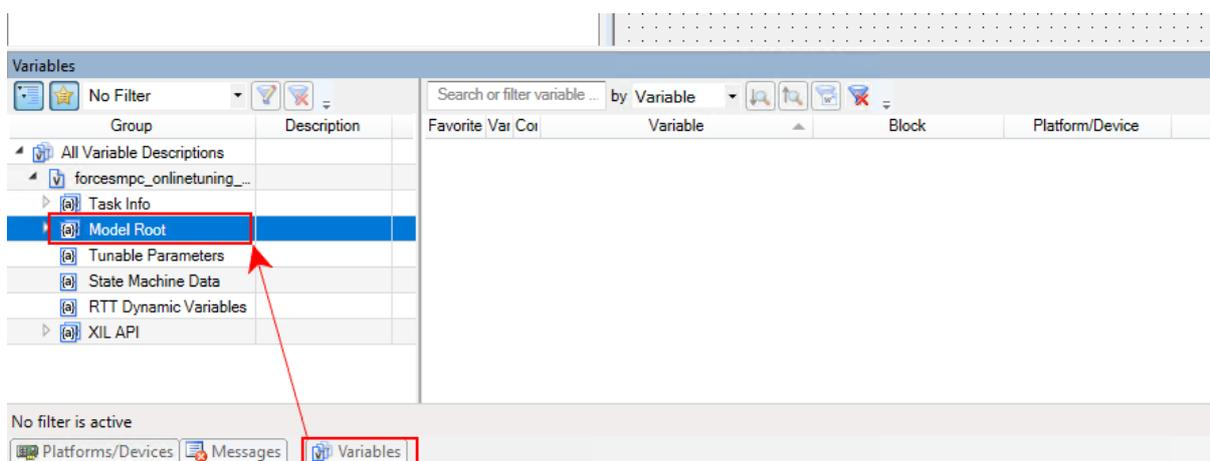

Figure 6.15: Find the model root in the variables tab
- On the project layout select the tab `Variables` and on the `forcesmpc_onlinetuning_dSpace_MicroAutoBoxII` category expand `Model Root` (see Figure 6.15).